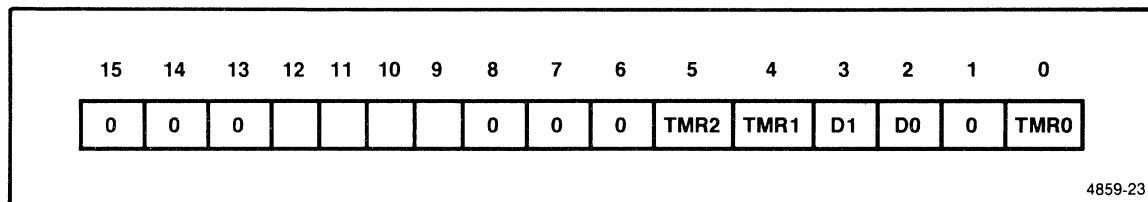

Figure 2-22. In-Service, Interrupt Request, and Mask register formats.
In-Service Register. The In-Service Register contains the IS (in-service) bit for each of the internal interrupt sources: three timer sources and two DMA sources. You can read or write to this register. The internal source IS bit is set when the 80186 acknowledges the internal interrupt's request. The In-Service Register bit format is shown in Figure 2-22. The bits in the In-Service Register have the following functions:
Interrupt Request Register. The Interrupt Request Register contains the status of internal peripherals that have interrupt requests pending. The Interrupt Request Register bit format is also shown in Figure 2-22. The interrupt request bits are set when an interrupt request arrives from an internal source, and are reset when the 80186 acknowledges the request. The bits in the Interrupt Request Register have the same functions as the bits in the In-Service Register.
Mask Register. The Mask Register contains a mask bit for each internal interrupt source. The Mask Register bit format is also shown in Figure 2-22. The bits in the Mask Register have the same functions as the bits in the In-Service Register. If you set a mask bit in the Mask Register that corresponds to a particular interrupt source, you mask the internal interrupt source from generating interrupts to the Interrupt Controller. The mask bits in the Mask Register are the same bits (MSK) that are in the individual control registers (discussed later in the section). Changing the state of a mask bit also changes the MSK bit in the individual control register. If you change the state of a MSK bit in the individual control register, you also change the state of the mask bit.
- Bit 3** **MSK.** The mask bit inhibits an interrupt request from the associated internal interrupt source. The MSK bit in the individual control registers is the same bit that appears in the Mask Register: (Refer to Figure 2-22.)